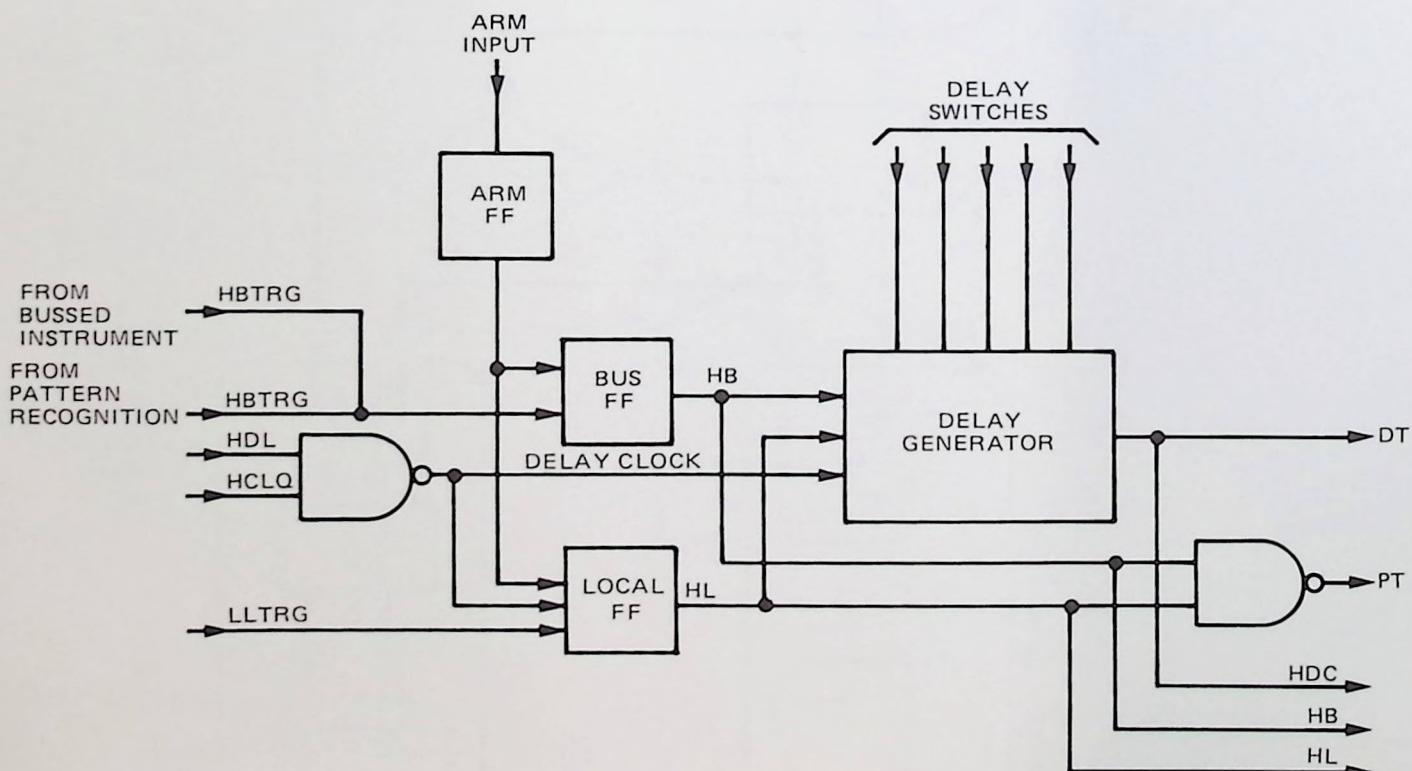

Figure 4-6. Digital Delay/Trigger Generator Block Diagram
4-29. Digital Delay and Trigger Generator. (See figure 4-6.) Once pattern recognition occurs, LLTRG is clocked into the local flip-flop. If BUS trigger mode is selected, the rising edge of HBTRG sets the bus flip-flop. When both flip-flops are set, HB and HL generate the pattern trigger (PT) and enable the delay generator. If the delay generator is set to zero, PT and DT (delayed trigger) are generated when the local and bus flip-flops are set. For delays other than zero, PT goes HI when the bus and local flip-flops are set and remains HI while the delay generator is running. When the delay has timed out, HDC occurs. DT is generated by HDC and PT is terminated. The delay generator and local flip-flop clock are qualified so that a trigger is recognized only when qualifer conditions are met.